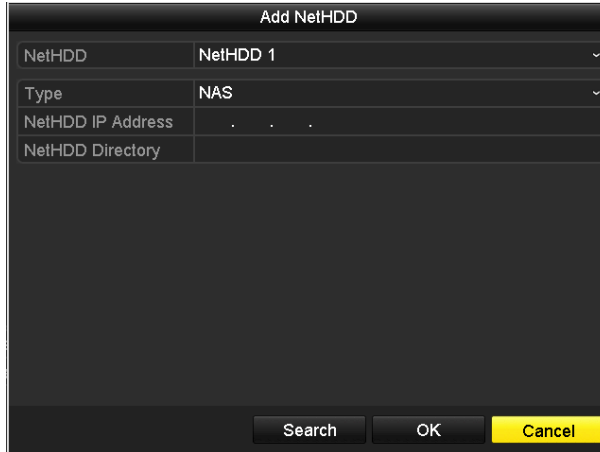

Figure 12-7 HDD Information Interface
Step 2 Click the **Add** button to enter the **Add NetHDD** interface, as shown in Figure 12-7.